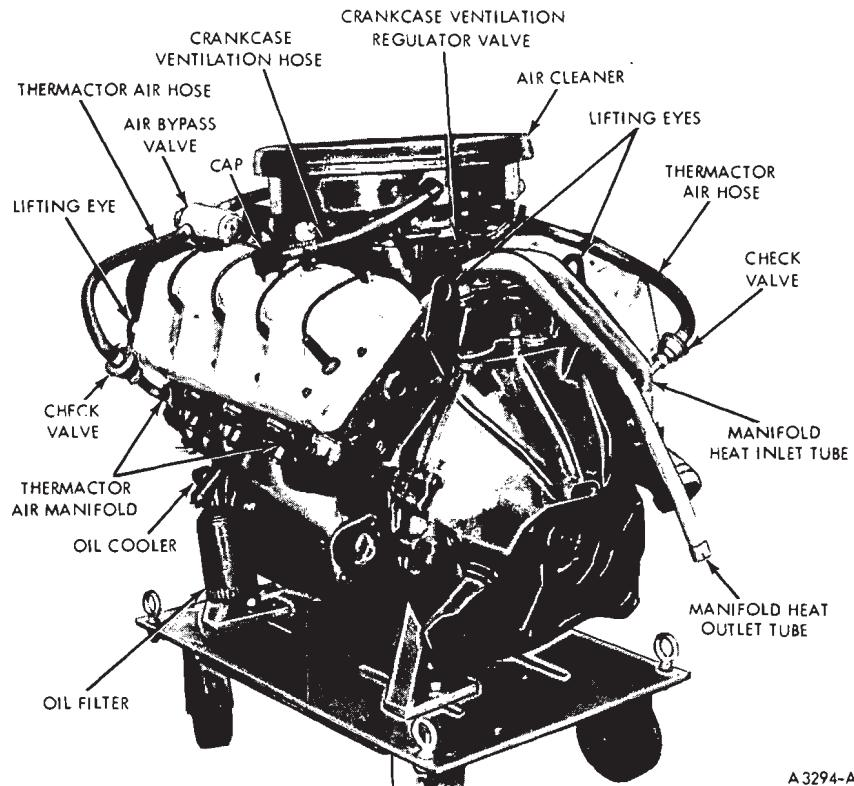

FIG. 3—3/4 Left Rear View of BOSS Engine
7. Disconnect the air hose from the Thermactor check valve (Fig. 3) on the head being removed.
8. Remove the ten cylinder head attaching bolts. Connect a lifting sling to the lifting eye at each end of the cylinder head (Fig. 3). Lift the head from the cylinder block with a hoist.
9. Connect the Thermactor air hose to the check valve (Fig. 3).